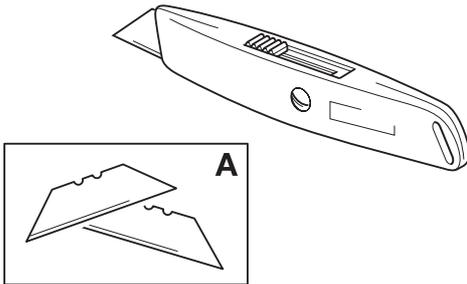

Fig 4. Craft Knife
- d Craft Knife.** ⇒ Fig 4. \(□ B-52\). The blades 4-A are replaceable.